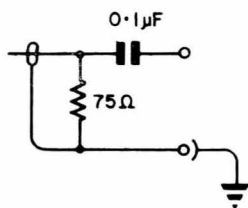
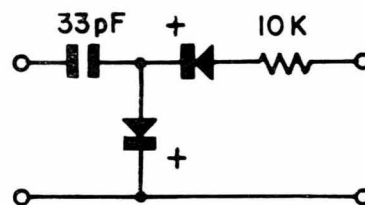

Fig. 1.
Fig. 2.
- (1) 5.5 MHz sweep.
- (2) Injection probe (Fig. 1).
- (3) Attenuator.
- (4) Display unit.
- (5) Detector (Fig. 2).
- (a) Inject 5.5 MHz Sweep through probe of Fig. 1 to junction of L9 and R115 (base of TR104). Connect detector (Fig. 2) to collector of video output, TR105, and connect the display unit to the output of the detector.